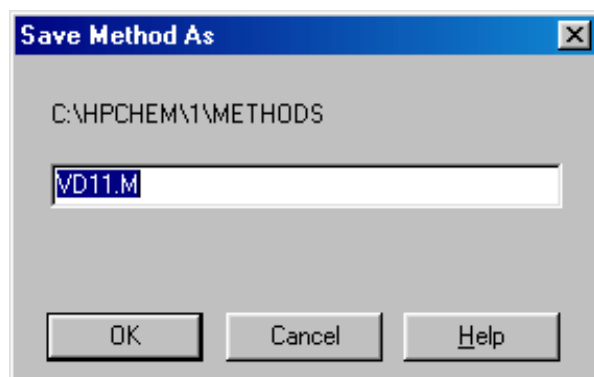

Figure 5 - Save Method As Dialog
- After the quantitation library is edited, changes will be saved and the 8261 library updated. A 'Save Method As' dialog will be shown (Figure 5). The currently selected quantitation library (labeled as 'Meth:' in the Method 8261 menu) is shown as the default directory. To save the changes as a new method, enter a new directory name. Press "OK" to save changes.